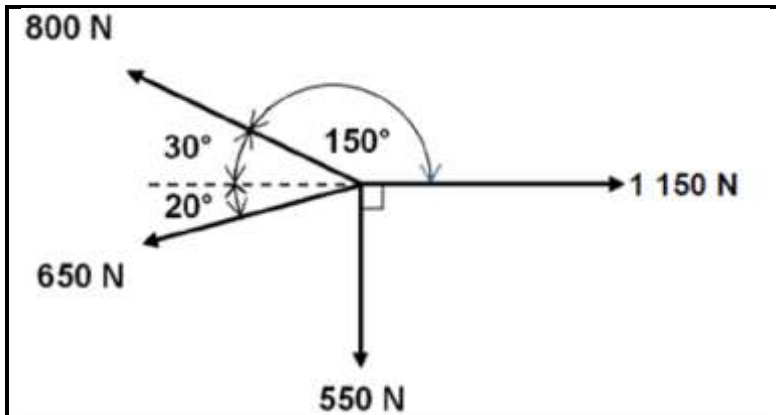

FIGURE 3
1.3 FIGURE 3 below shows a system of forces with four coplanar forces acting on the same point. Calculate the magnitude and direction of the equilibrant of this system of forces.